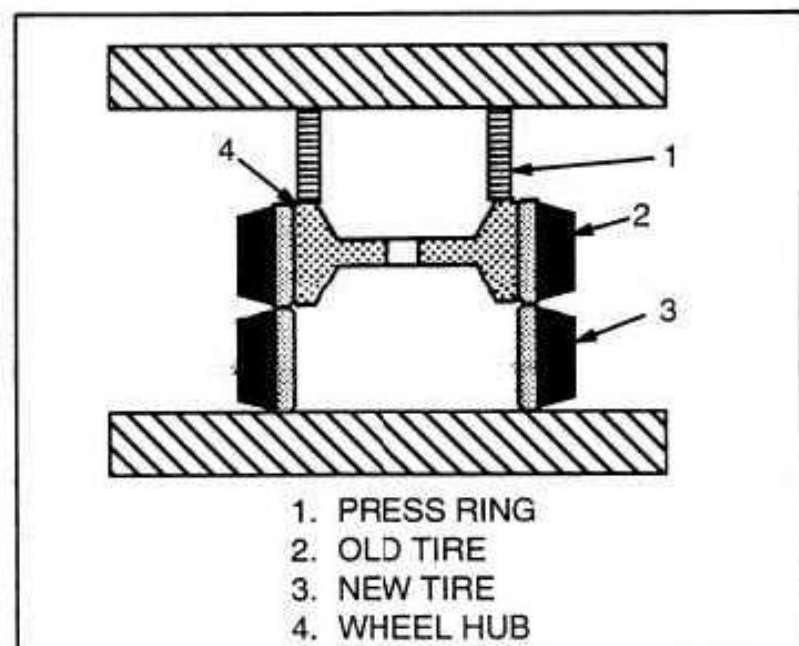

Figure 2-5 – Position Tire on Wheel
3. Position the new tire in the press. See Figure 2-5. Align the wheel and tire assembly removed from the truck on top of the new tire. Make certain the wheels are aligned. Make certain the tires are level. Position a press ring on top of the wheel hub.